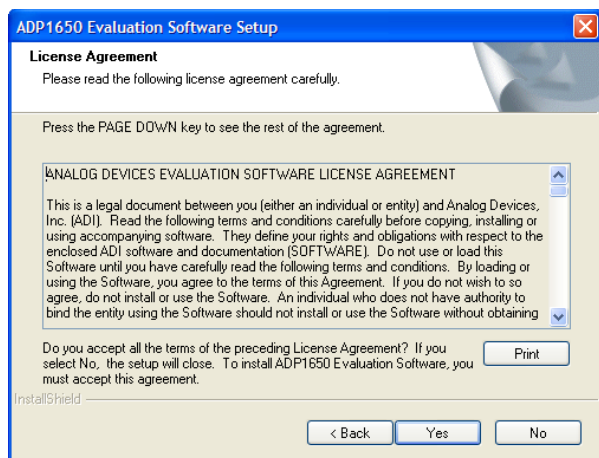

Figure 3. License Agreement
2. When the box shown in Figure 3 is displayed, click **Yes** to accept the license agreement.